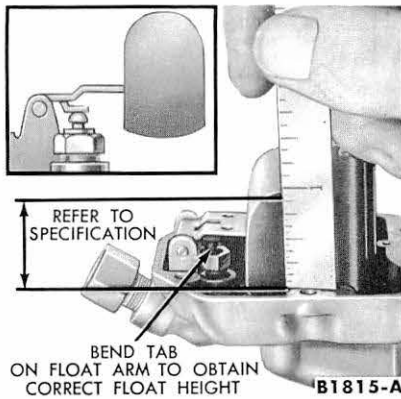

FIG. 12—Float Adjustment
2. Measure the distance from the gasket surface of the upper body to the crown (extreme top) of the float (Fig. 12). If the float adjustment is not within the specified dimension, bend the float arm tab, as necessary, to obtain the specified dimension. **Do not apply pressure on the fuel inlet needle. The viton tip of the fuel**